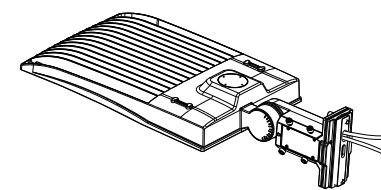

Figure 6
Step 2: Install the bracket on the fixture, then cover the side lid and tighten it. (Figure 6)